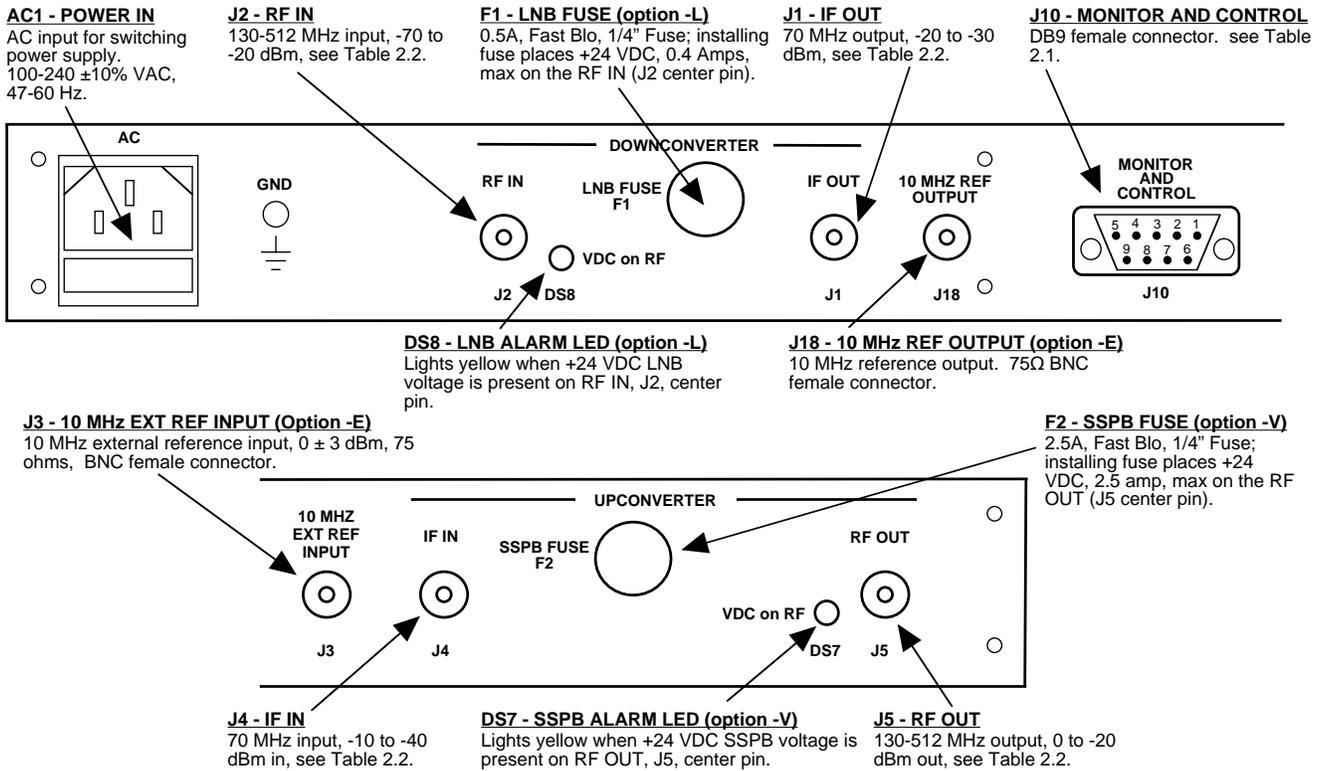

Figure 2.1 Model 2017-1351 Rear Panel I/O's
- 1.) Connect a -40 dBm to -10 dBm signal to IF In, J4 (Figure 2.1).
- 1.) Connect a -70 dBm to -20 dBm signal to RF In, J2 (Figure 2.1).